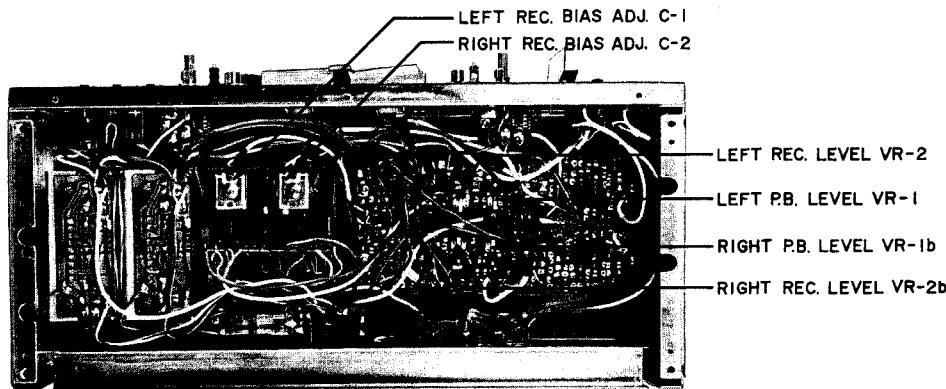

Fig. 15
4. PLAYBACK LEVEL ADJUSTMENTS (See Figs. 15, 16)
5. RECORDING LEVEL ADJUSTMENTS (See Figs. 15, 16)